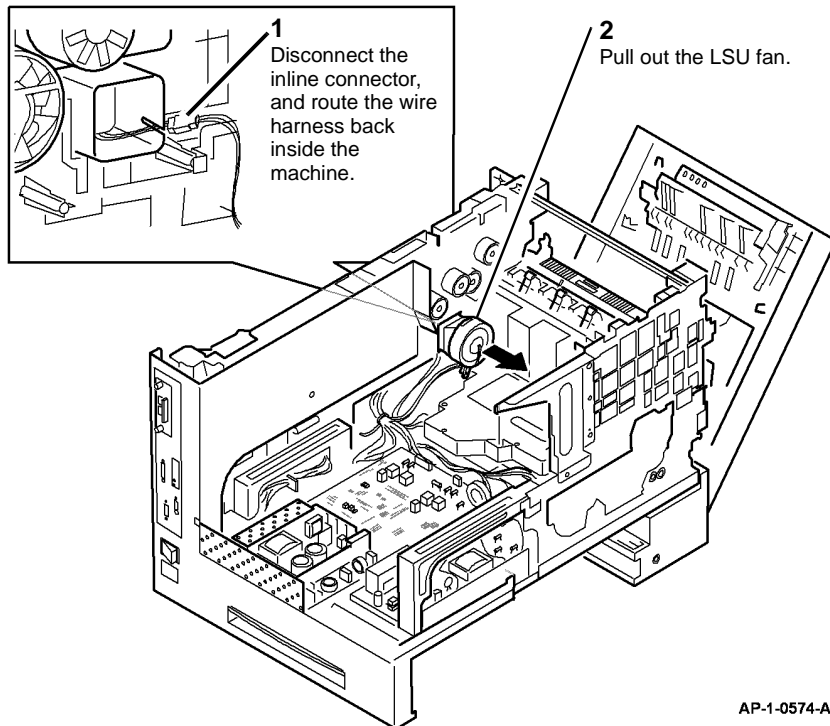

Figure 1 Removing the LSU Fan
5. Remove the LSU fan, Figure 1.